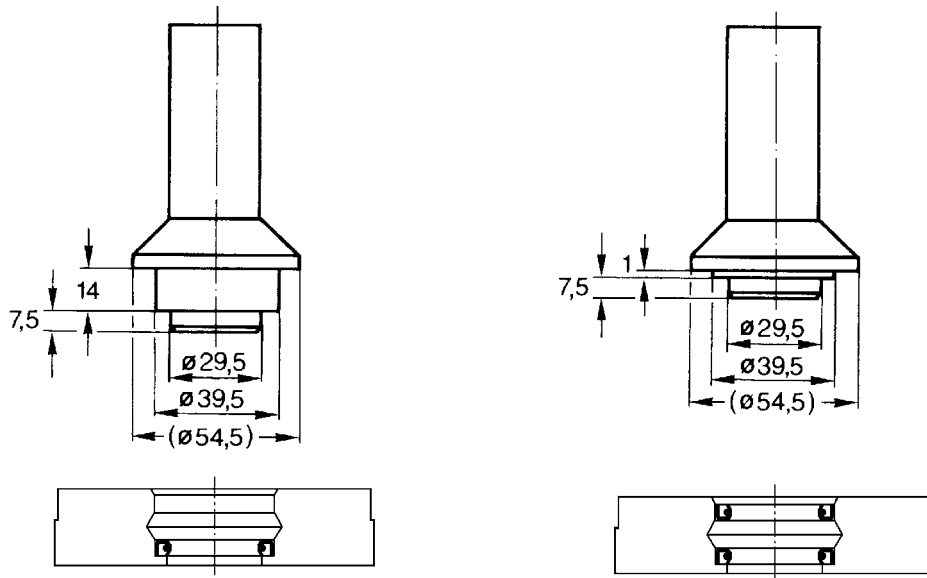

Fig. 13 Shaft sealing ring driver
**Key to Fig. 13**
- Insert the key (12/5).